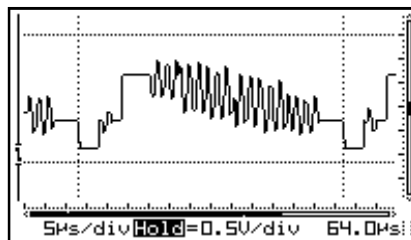

Fig 16
- **Markers:** Moveable markers in order to measure the signal (Fig. 16).